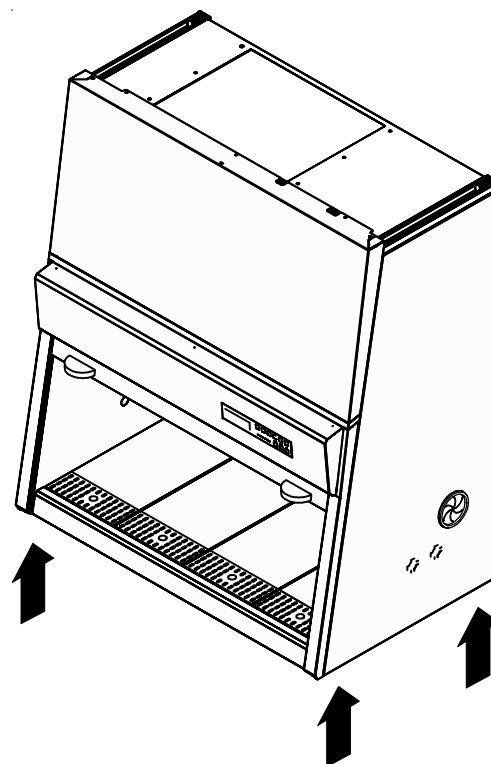

Fig. 2
**Fig. 2:** To prevent tilting, always transport the device using a suitable carrier, even for a transport within a building, and separate it from the stand (see Section 5.2).
For transport, lift the device only at the lift points shown in Figure 2.